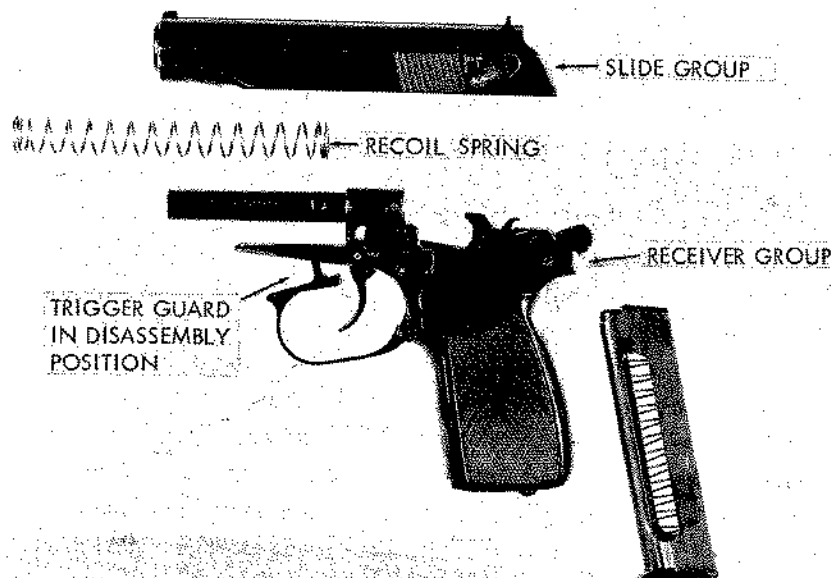

Figure 3. Makarov pistol, field stripped.
(1) Clear the weapon (para 3g), but do not insert the magazine or set safety on safe.
(2) Pull the front of the trigger guard down and, when it is clear of the receiver, press it to one side; then rest it against the receiver (fig 3).
(3) Grasp the slide by its milled grooves, pull it fully rearward, and lift its rear end up, out of engagement with the